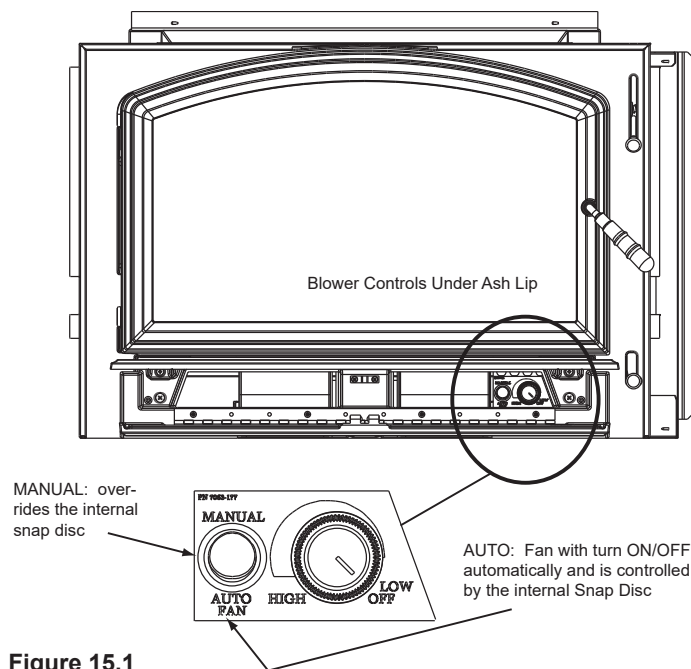

Figure 15.1
1. The blower will turn on/off automatically when set to AUTO (**Figure 15.1**).